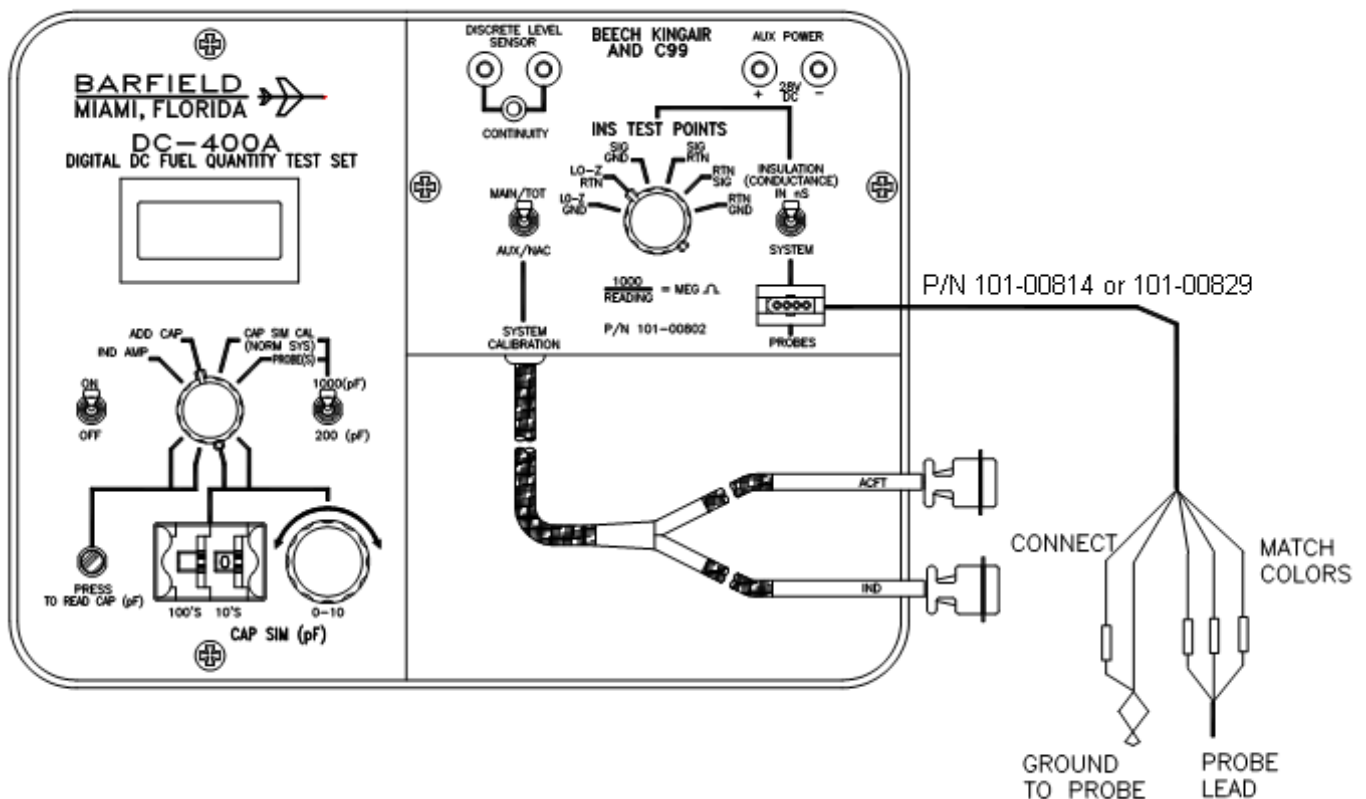

Figure 11 Bench Probe Interface
- (1) Refer to Figure 11 and connect the test set to the probe as shown.
- (2) Connect the Beech probe adapter, P/N 101-00829 or 101-00814, to the test set PROBES receptacle as shown in the Figure 11.